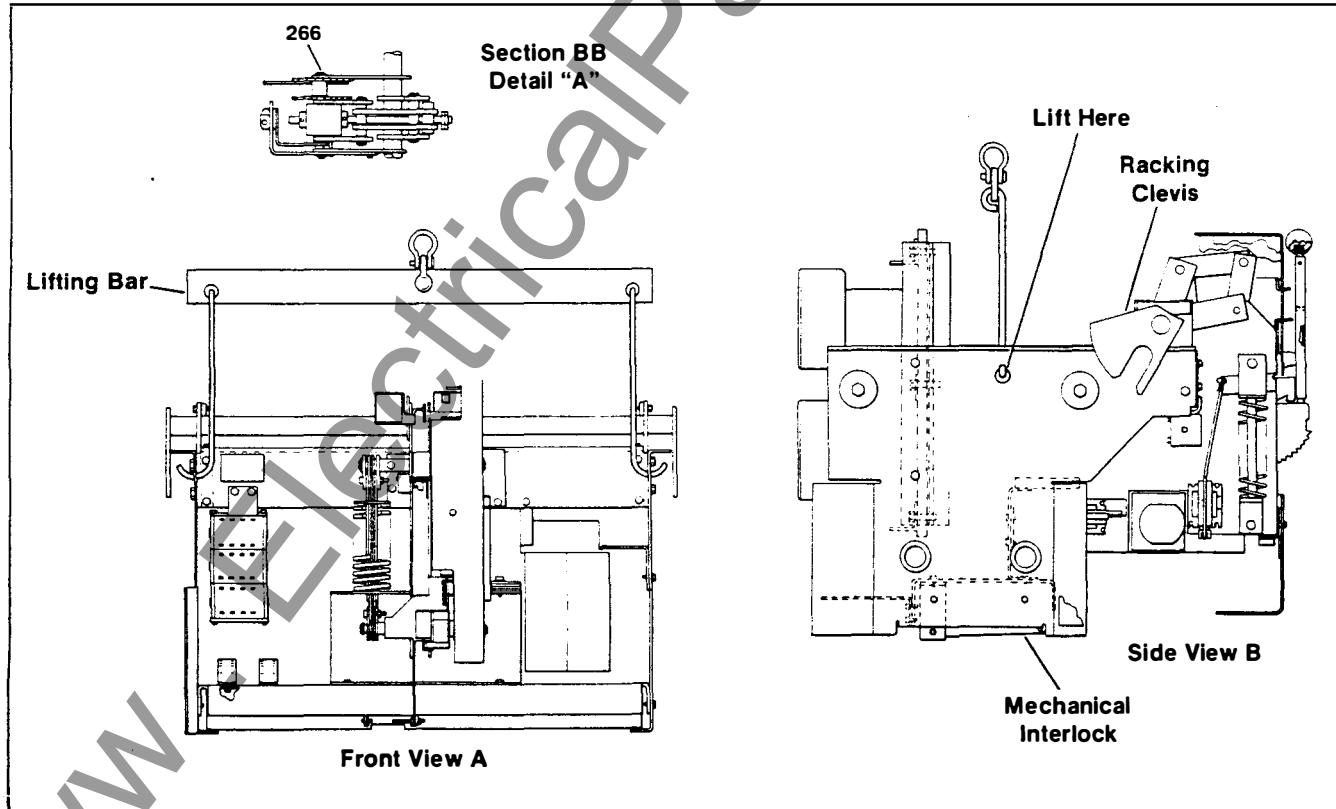

Figure 1. Typical Racking Mechanism and Drawout Interlock
1. Before the breaker is installed in position, make sure racking clevis' (Fig. 1) are in test or connect position, then close it manually by the maintenance closing method (see MAINTENANCE AND ADJUSTMENTS, page 12) to check proper functioning of the mechanism and contacts.
Charging Springs	<p>Make sure that the racking clevis' are in either test or connect position. Never pull charging handle down with clevis' in disconnect position as shown in Figure 1.</p> <p>Pull charging handle down all the way (approximately 120°) and return to normal vertical position. (Engagement of pawl with the ratchet teeth prevents handle reversal until the downward stroke is completed.)</p>
(REFER TO FIGURES 1, 3 and 4)
CAUTION Make sure that racking clevis' (Fig. 1) are in test or connect position before charging springs. Do not charge springs with clevis' in disconnect position as this could cause damage to breaker.